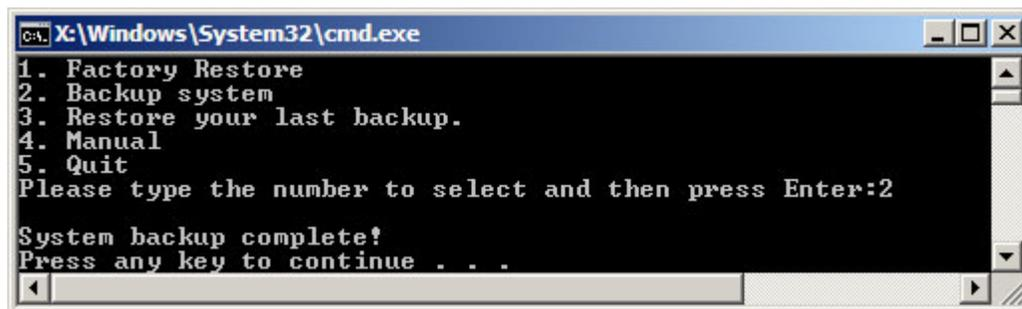

Figure D-39: System Backup Complete Window
Step 3: The screen shown in **Figure D-39** appears when system backup is complete.